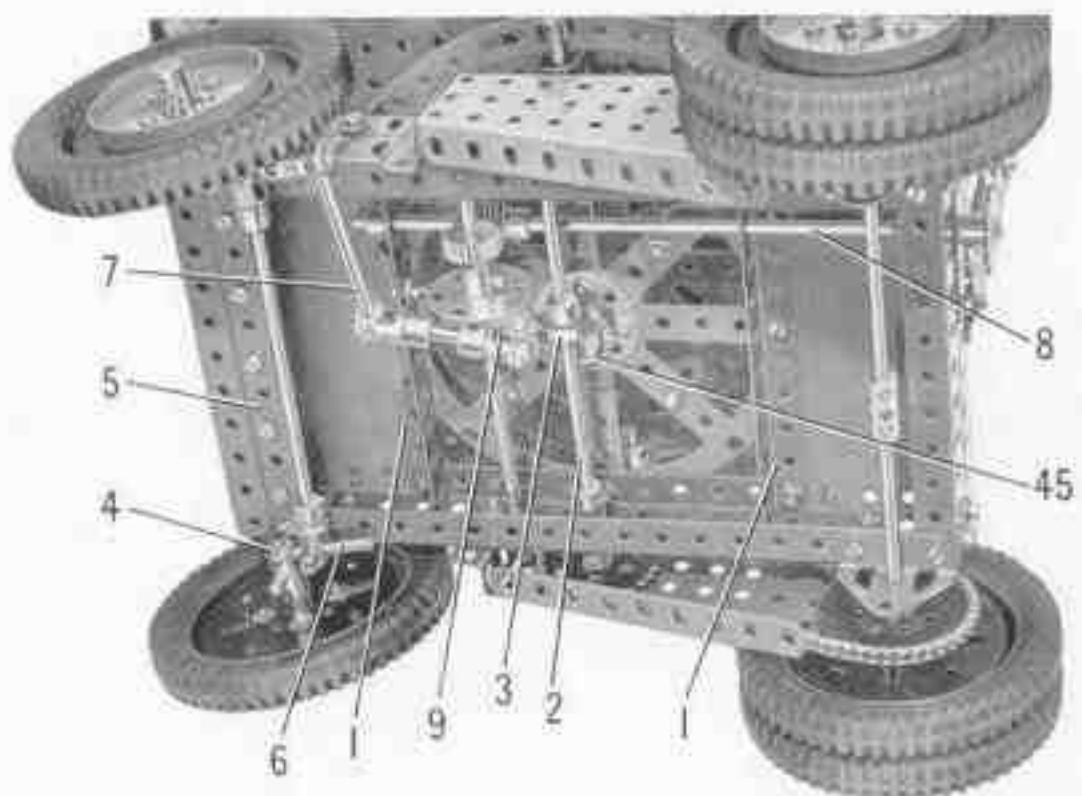
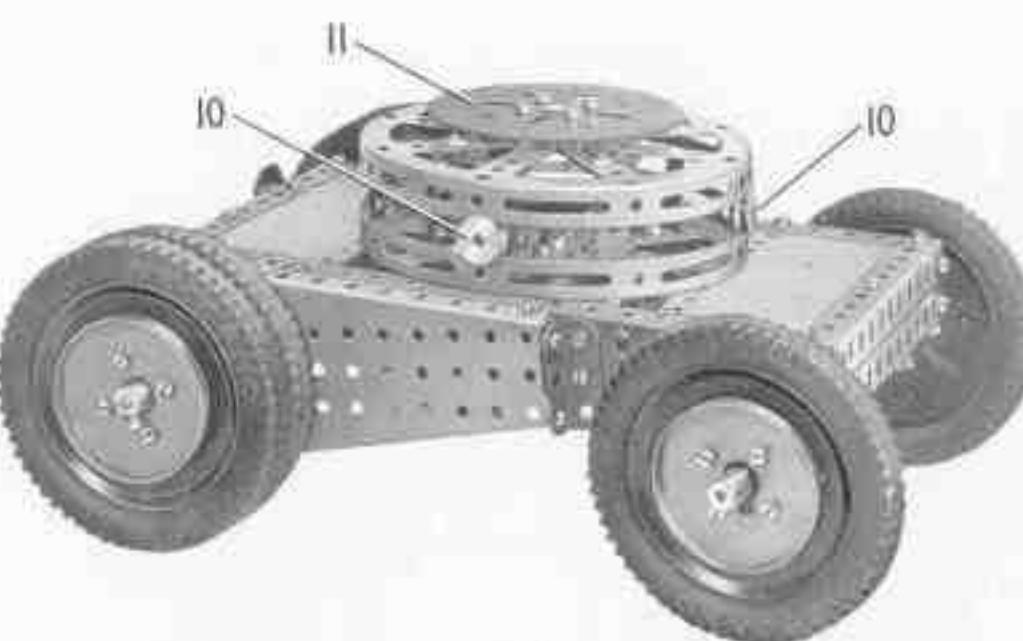
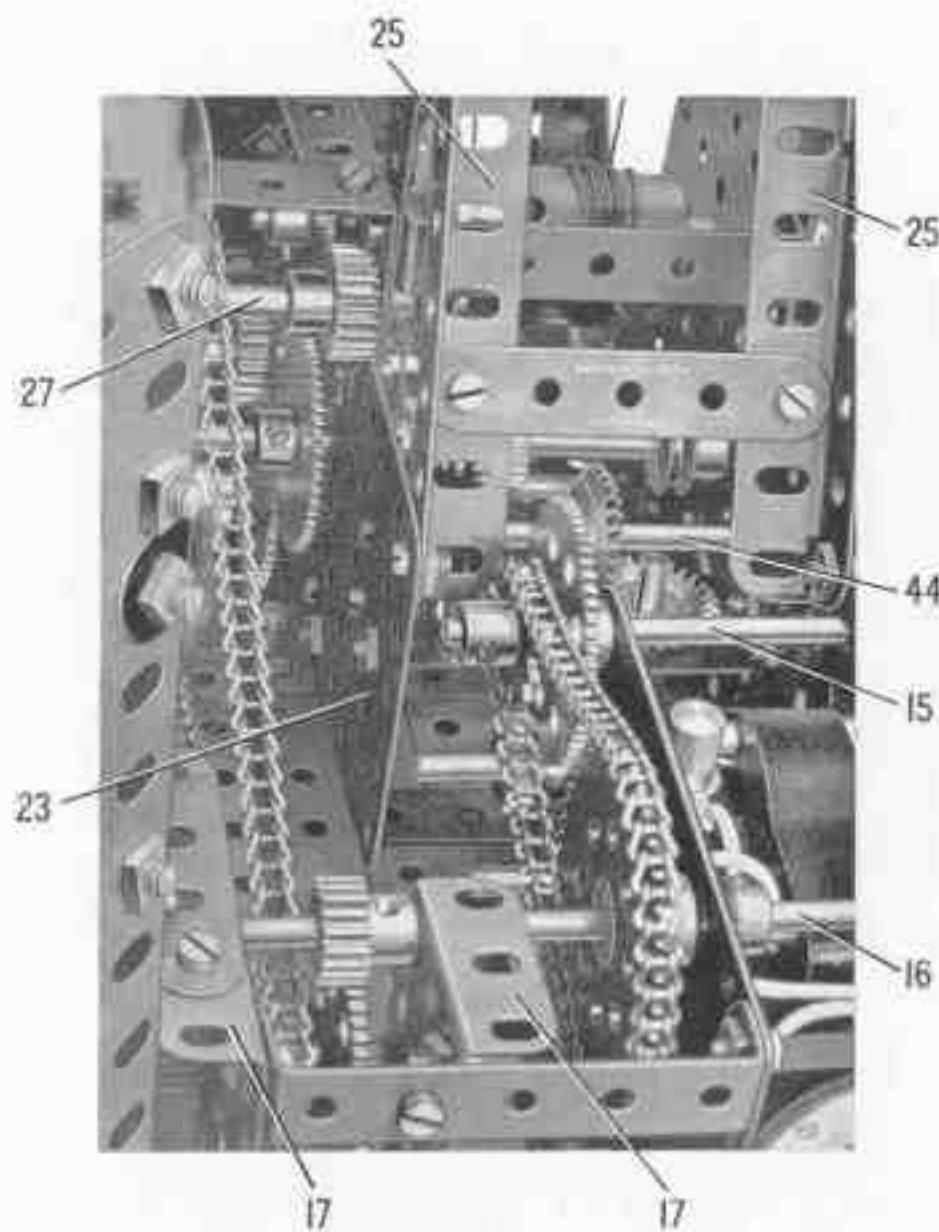

FIG. 2
FIG. 4
FIG. 6
### The Wheeled Base (Figs. 2 and 4)
Each side-member of the base consists of two  $9\frac{1}{2}$ " Angle Girders joined together by two  $1\frac{1}{2}$ " Flat Girders. The side-members are connected at each end by two  $5\frac{1}{2}$ " Angle Girders, which are bolted to Angle Brackets fixed to the  $9\frac{1}{2}$ " Girders. A  $5\frac{1}{2} \times 2\frac{1}{2}$ " Flexible Plate is bolted across the top of each end of the base, and the inner edges of these Plates are strengthened by  $5\frac{1}{2}$ " Angle Girders (1) (Fig. 2).
#### Details of the Roller Bearing (Figs. 4 and 5)
#### Power Unit and Reduction Gearing (Figs. 6 and 7)
(Figs. 6, 7 and 11)
The housing for the gear-box is made by bolting two 3 $\frac{1}{2}$ " x 2 $\frac{1}{2}$ " Flanged Plates (20) (Fig. 7) and a similar Flanged Plate (21) to the floor of the cab. The Plates are spaced from the floor by a 7 $\frac{1}{2}$ " Strip, one end of which is seen at (22) (Fig. 11). The Flanged Plate (21) and one of the Plates (22) are each extended towards the rear by a 2 $\frac{1}{2}$ " x 2 $\frac{1}{2}$ " Flat Plate (23), which is connected to its Flanged Plate by Fishplates. A vertical 7 $\frac{1}{2}$ " Strip (24) (Fig. 11) is bolted to the front edge of each of the Flat Plates (23). These Strips are connected by a 2 $\frac{1}{2}$ " x 1" Double Angle Strip as shown in Fig. 6, and by a similar part bolted between the top ends of the Strips. The Strips are braced to the upper rear corners of the Flat Plates (23) by 5" Angle Girders (25) (Figs. 6 and 7), which are connected by three 2 $\frac{1}{2}$ " Strips (see Fig. 7).
The gear-box has three driving or input shafts, each of which is a 2" Rod supported in the Flanged Plates (20) and fitted with a 1" Sprocket and a  $\frac{1}{2}$ " Pinion. One of these shafts is indicated at (27) (Figs. 6 and 7), and it is mounted in the next to top holes of the rear edges of the Flanged Plates (20). This shaft is used to engage the forward drive for the travelling movement and the lifting drive to the lifting drum. The second driving shaft is seen at (28) (Fig. 7). This shaft is mounted in the centre holes of the Flanged Plates (20), and it will be seen that its  $\frac{1}{2}$ " Pinion is fixed towards the centre of the shaft, so that a gap sufficient to accommodate a 50-tooth Gear is left between the Pinions on the shafts (27) and (28). The shaft (28) is used to provide the reverse drives for all four movements of the gear-box, and it is located in its bearings by a collar formed by the other half of the Dog Clutch. Unfortunately the third driving shaft cannot be seen in our illustrations, but
The drive to the travelling motion is engaged by sliding a 5" Rod (41) (Fig. 11) to bring a 50-tooth Gear into mesh with the Pinion on either shaft (27) or shaft (28) (Fig. 7). The sliding motion is controlled by a lever (42) (Fig. 11), which is a 2 $\frac{1}{2}$ " Rod in a Rod and Strip Connector. The lever engages between two Collars on Rod (41), and the Rod and Strip Connector is lock-nutted to an Angle Bracket bolted to the floor of the cab. Rod (41) is fitted with a  $\frac{1}{2}$ " diameter, 1" face Pinion (43), and this drives a 57-tooth Gear on a 2 $\frac{1}{2}$ " Rod (44) (Figs. 6 and 7). A  $\frac{1}{2}$ " Bevel Gear on Rod (44) engages a similar Bevel Gear on a vertical Rod supported in the floor of the cab and in the Double Angle Strip held by the bolts (26). The vertical Rod passes freely through the Gear (11) (Figs. 4 and 5) and the centre of the roller bearing unit, and at its lower end it is fitted with a 1" Bevel Gear (45) (Fig. 2) that drives the Bevel Gear (3) of the wheeled base.